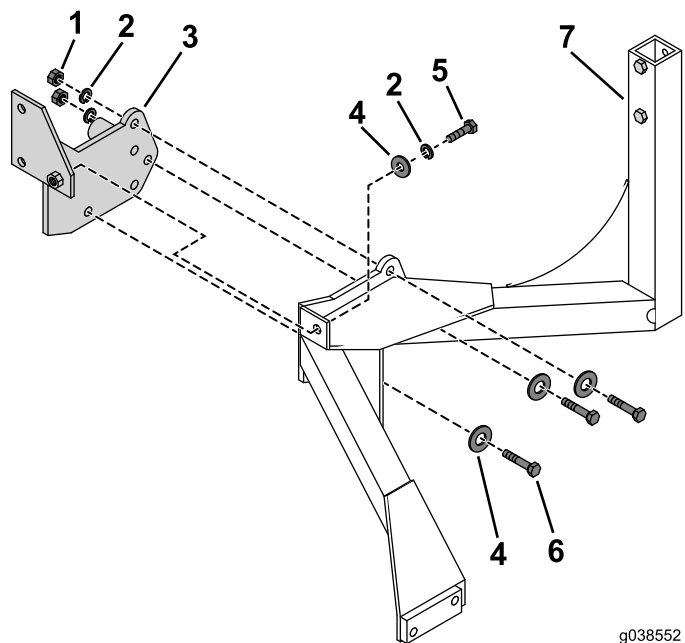

Figure 6
1. Use the 3 bolts (1/2 x 1-1/4 inches), flat washers, lock washers, and nuts to secure the mounting plate to the mounting bracket (Figure 6).
2. Use the bolts (1/2 x 1 inch), nuts, and lock washers to secure the mounting bracket to the mounting plate (Figure 6).